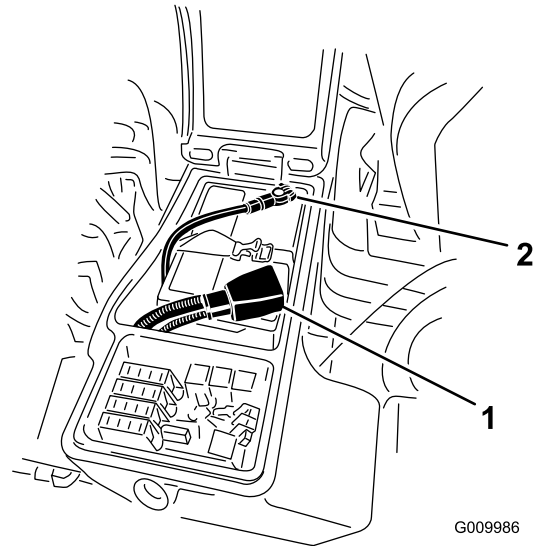

Figure 98
3. Remove the negative cable (black) from the negative (-) terminal and the positive cable (red) from the positive (+) terminal of the battery (Figure 98).
6. Install the positive cable (red) to the positive (+) terminal and the negative cable (black) to the negative (-) terminal of the battery (Figure 98).